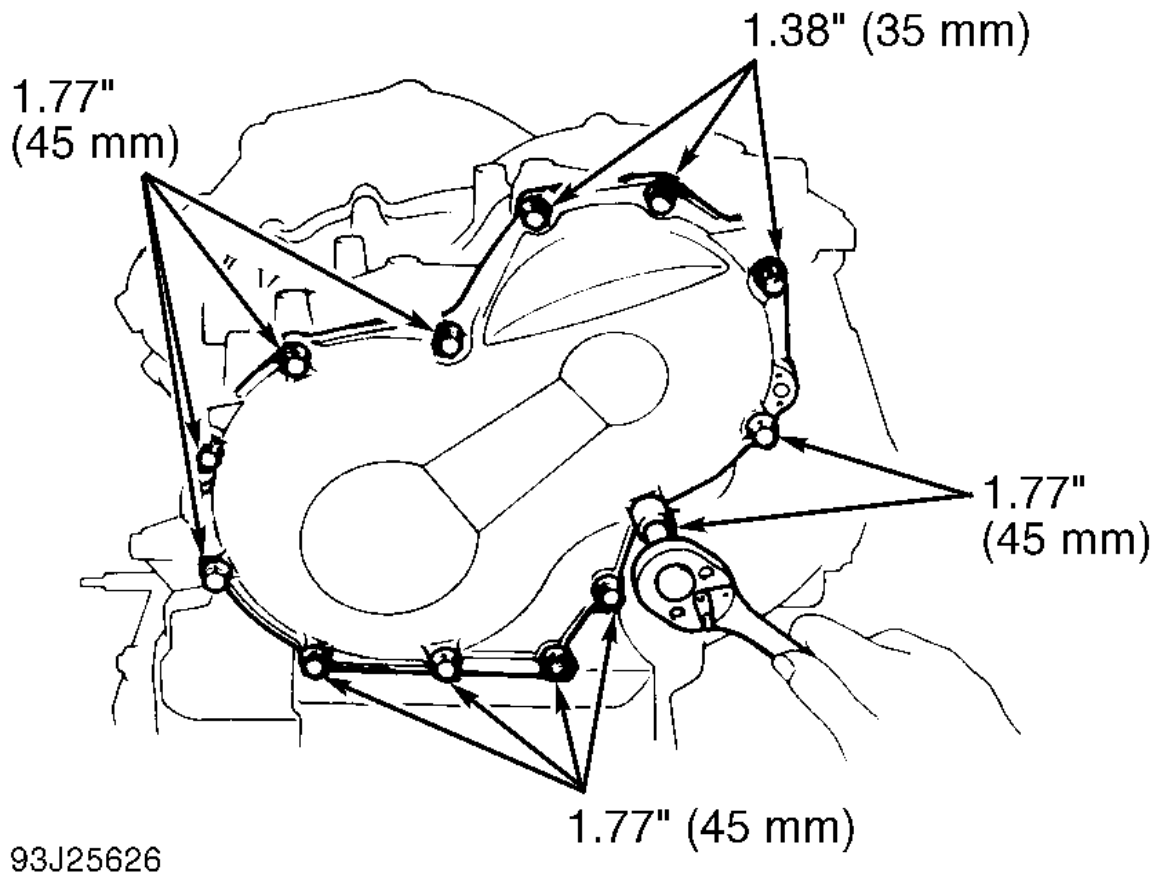

Fig. 80: Identifying Transaxle Rear Cover Bolts
14. Install intermediate shaft. Apply gasket sealer to rear cover sealing areas. Install transaxle rear cover and bolts. Ensure bolts are installed in correct locations. See Fig. 80 . Tighten bolts to 21 ft. lbs. (29 N.m). Install apply gaskets in transaxle case. Install thrust washer and governor driven gear. See Fig. 18 . Ensure intermediate shaft rotates smoothly.